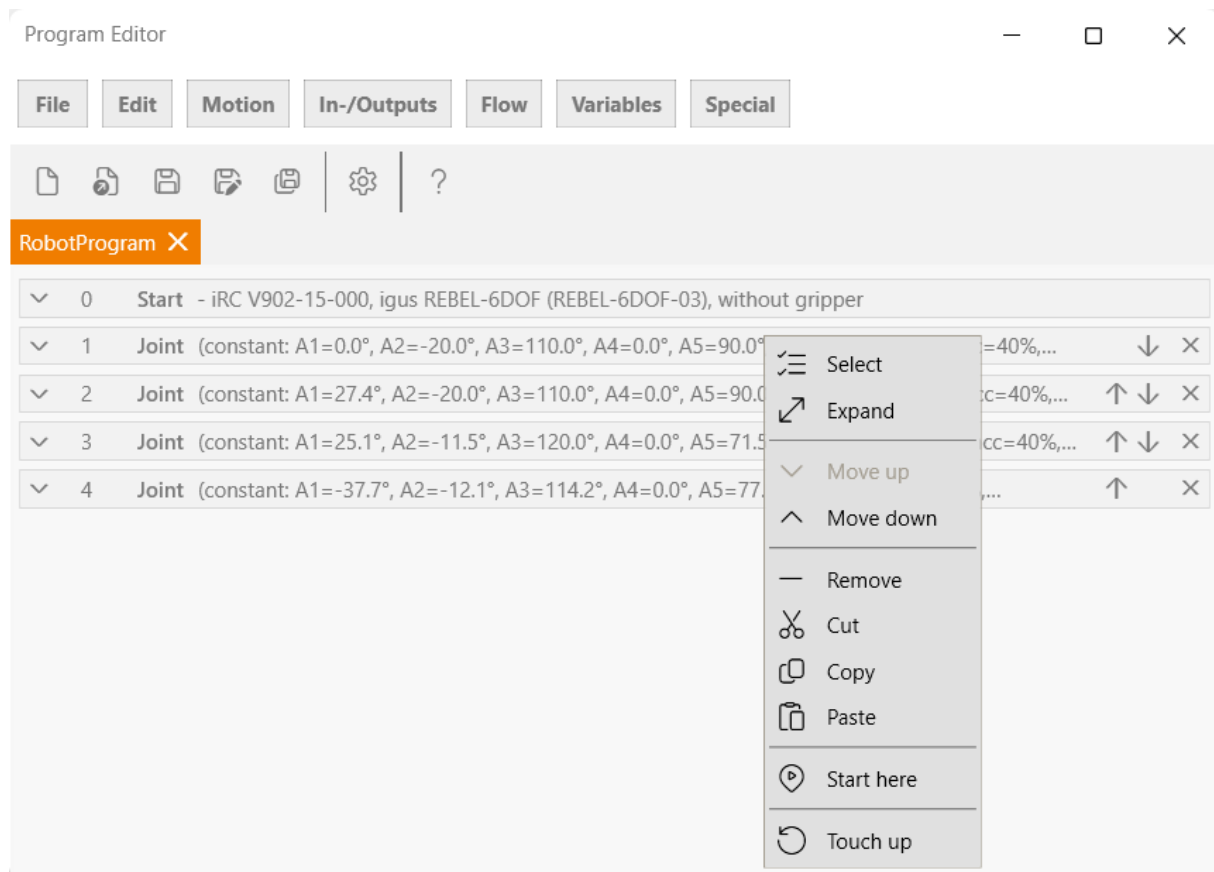

Figure 20: The context menu of a command
To move a command, use the arrows on the right side of the command line. Alternatively, you can click "Down" or "Up" from the command context menu (see Fig. 20).
- Open the context menu by right-clicking on the command and click on "Touch Up!" (see Fig. 20).
To select a specific command as the starting point for execution, click on "Start Here" in the context menu (see Fig. 20).